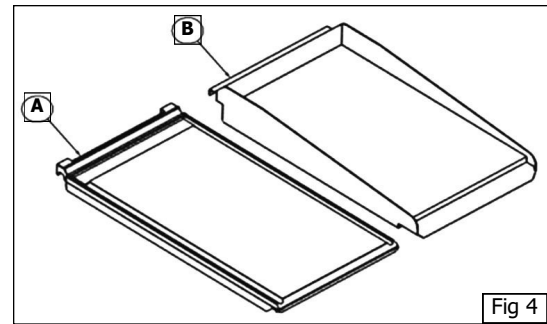

Fig 4
The following options of griddle plate (Fig 4) can be fitted to the chargrill:-
3. Fit Griddle Plate (Item A) or (Item B), as required (Fig 4).